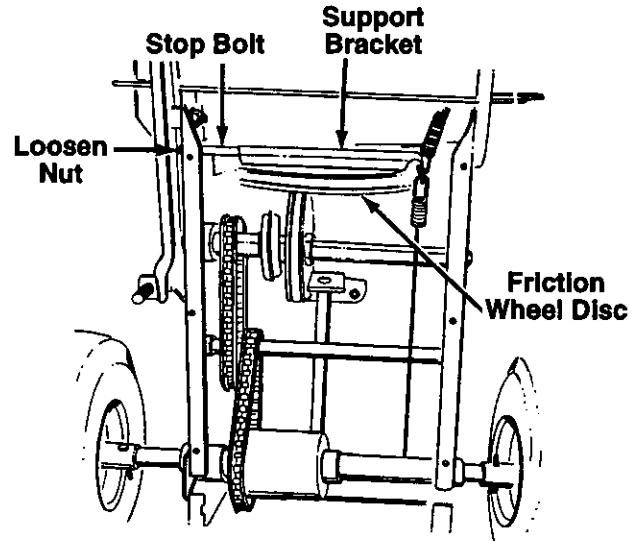

FIGURE 19.
7. Loosen the nut on the stop bolt until there is clearance between the support bracket and the friction wheel disc. See figure 19.